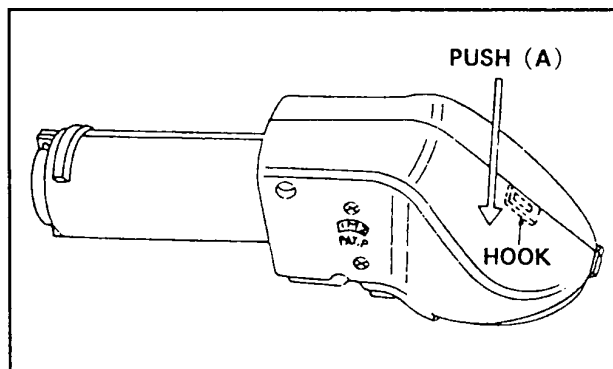
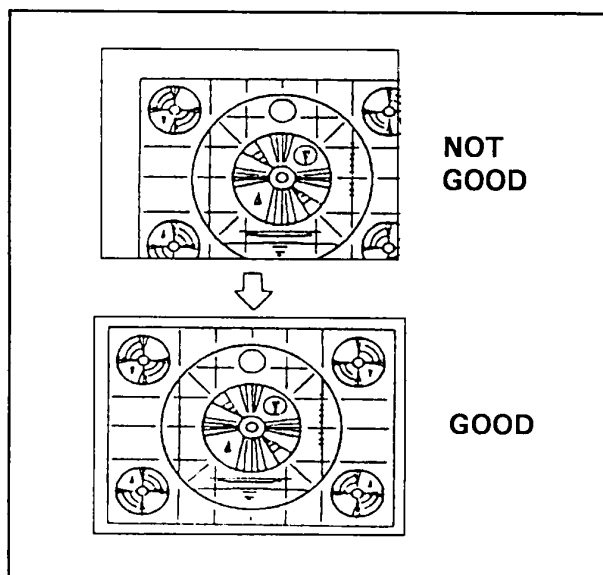

Figure F4
Figure F8.
- 7) Push the portion A as shown in Figure F4 so that the CRT case can be removed.
2. Rotate the two centering magnets as shown in Figure F4 to center the picture both vertically and horizontally as shown in Figure F8.